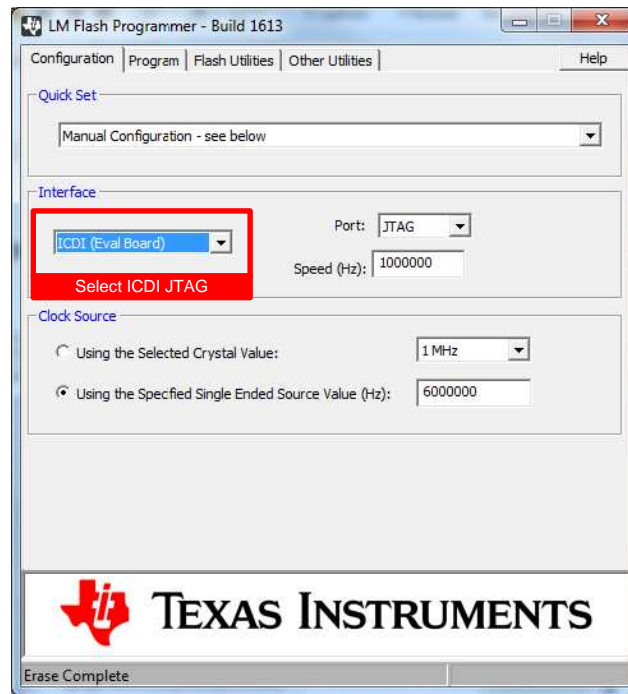
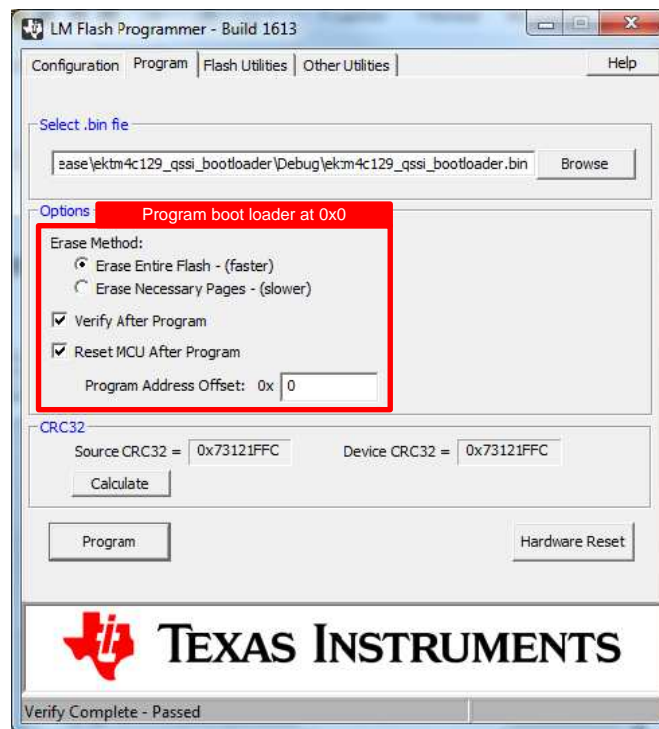

图 12. LM Flash Programmer Main Bootloader Programming - Interface Setting (JTAG)
图 13. LM Flash Programmer Main Bootloader Programming - Options Settings
- Place jumper J1 on the FLASHCS side. Use the LM Flash programmer to download ektm4c129_qssi_bootloader to an TM4C1294NCPDT Connected LaunchPad kit that has been erased. After performing checks for QSSI and SDRAM memory, the bootloader activates UART0 to download an image to the external QSSI flash. For the setting of the LM flash programmer, see 图 12 and 图 13.)